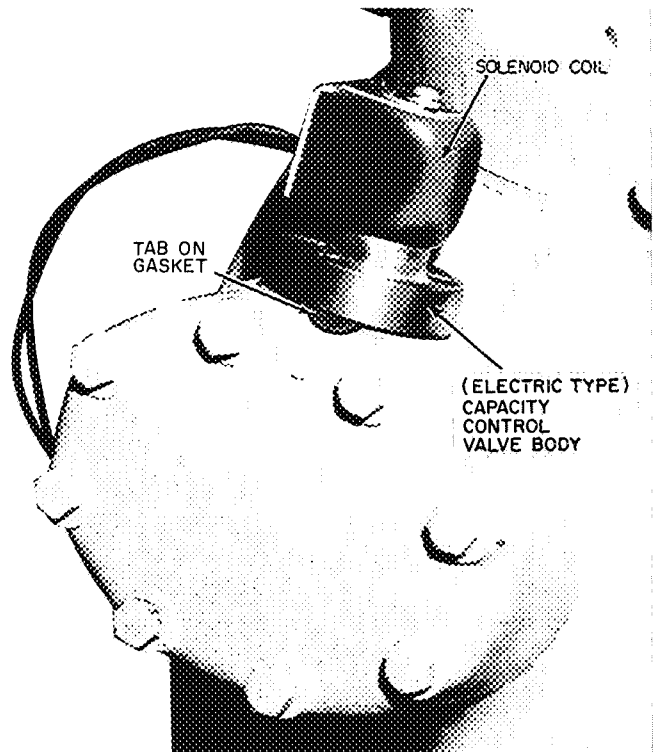

Fig. 2 — Installed Capacity Control Valve
6. Control valve gasket must be positioned correctly on flange. *Tab must be outward as shown in Fig. 2.*